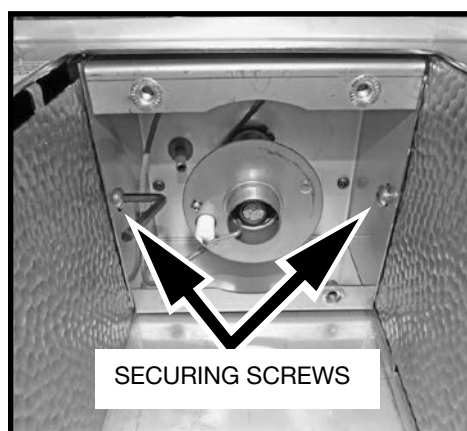
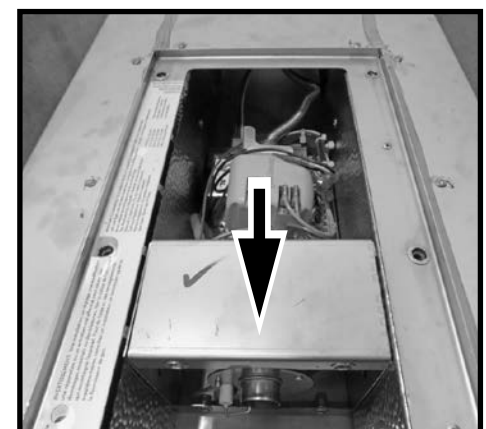

Figure 34: Removing gas valve assembly securing screws.
Figure 35: Sliding gas valve assembly toward firebox cavity.
10. The entire gas valve assembly can be slid in towards the firebox cavity (Figure 35).
2. Slide the gas valve assembly back into place and secure using two 5/16 Allen screws (Figure 35 and Figure 34).